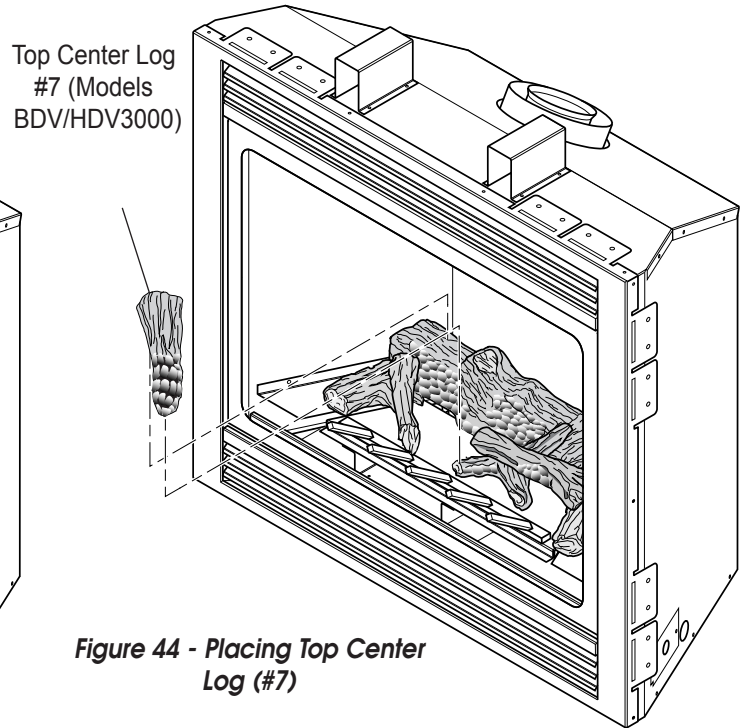

Figure 44 - Placing Top Center Log (#7)
7. For models BDV/HDV3000, place top center log #7 on rear log and bottom center log as shown in *Figure 44*.